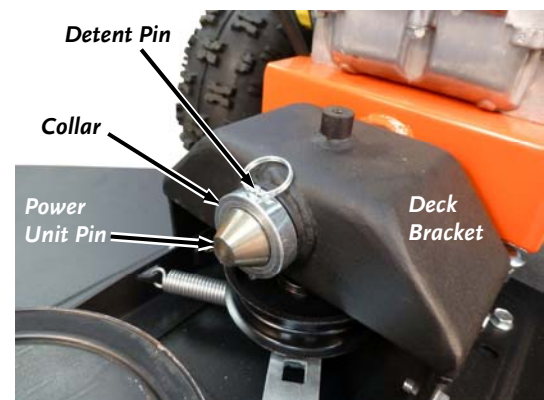

Figure 4
2. Slide the Power Unit Pin into the Deck Bracket and install the Collar and Detent Pin (**Figure 4**).
6. Remove the Collar and Detent pin (**Figure 4**).